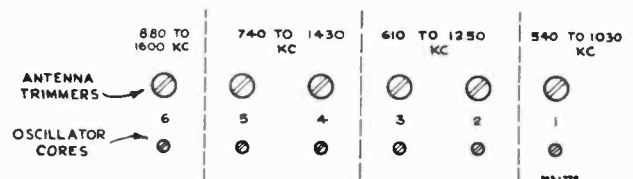

Figure 10—Push-Button Adjustments
**PUSH-BUTTON ADJUSTMENT**—To adjust the radio push buttons, set the function switch to the broadcast band position, tune the receiver to the desired station and identify the program. Turn the function switch to the push button position and push the appropriate push button. Adjust the corresponding oscillator core until the desired station is heard. Adjust the corresponding antenna trimmer for maximum output. Proceed in the same manner to adjust the remaining push buttons. Figure 10 shows the location of the push-button adjustments and the range which the adjustments will cover.